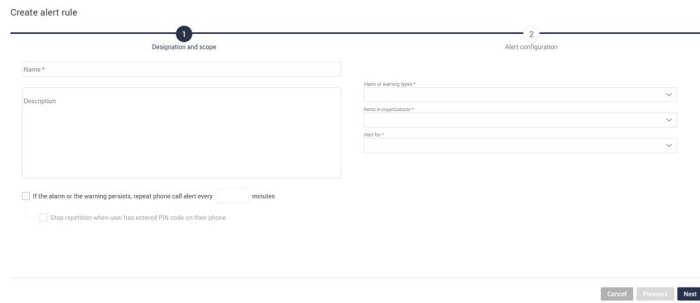
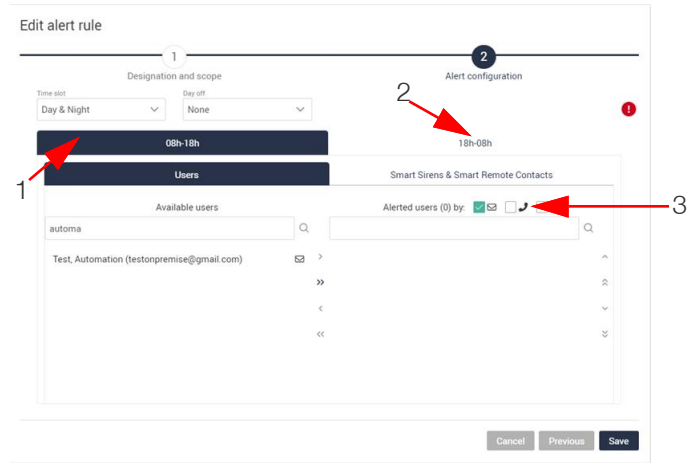

Figure 215. Setting up an alert rule (Step 1)
Figure 216. Assigning users to time periods in an alert rule (Step 2)
Add or remove users in the **Users** tab (3) of the screen as shown in **Figure 215** and **Figure 216**:
1. Determine how users will be alerted (1): via e-mail (✉) automated voice call (☎) or SMS / Text message (💬). Click the check box (☐) → (☑) to assign one or more alert types.